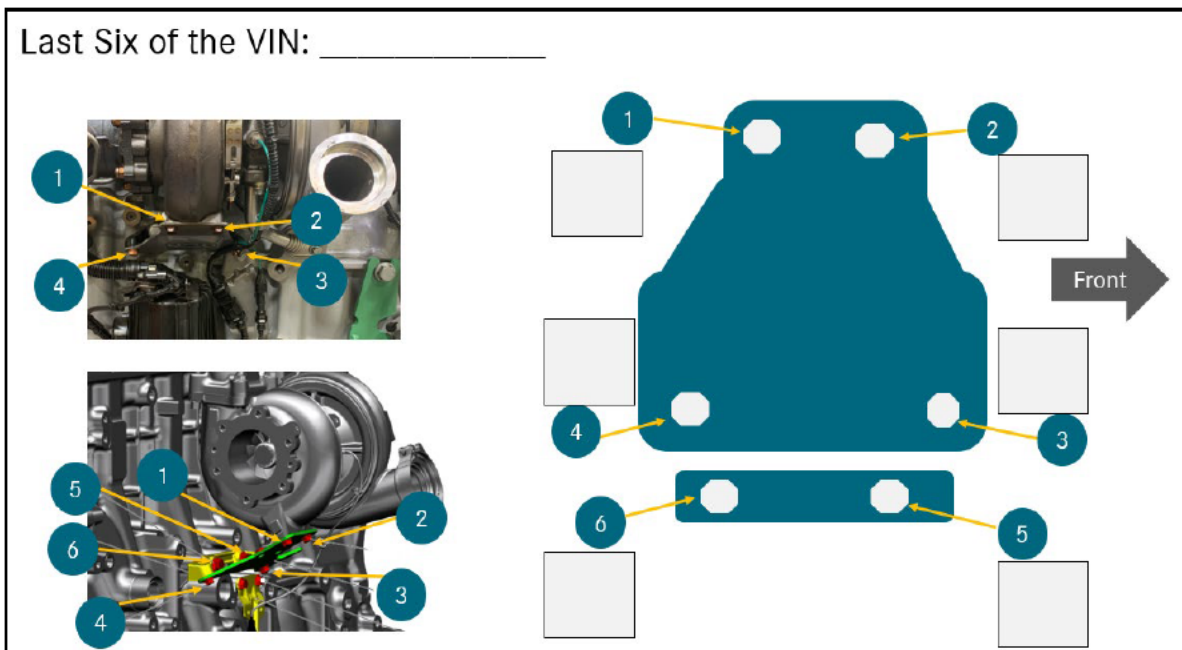

Fig. 1, Numbering the Six Bolts for the Turbo Mounting Brackets
2. Number the six bolts for the turbo mounting brackets with a paint marker as shown in **fig. 1**.